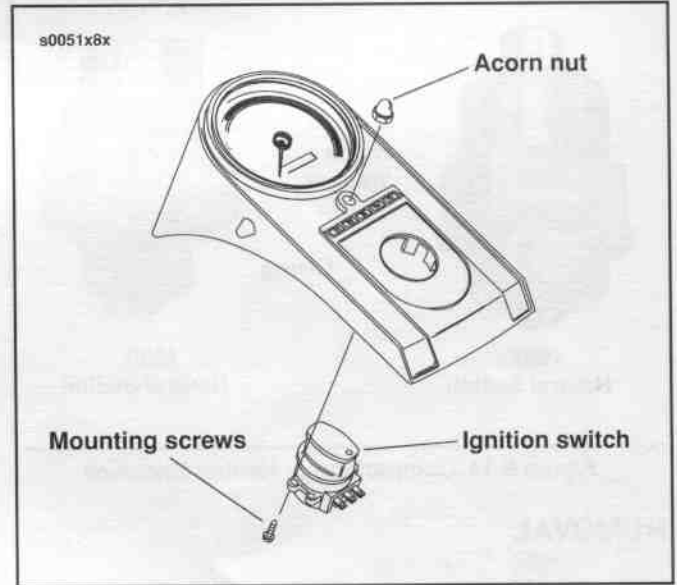

Figure 8-13. Ignition/Light Switch
4. See Figure 8-13. Disconnect all wires connected to the switch terminals and remove the switch mounting hardware.